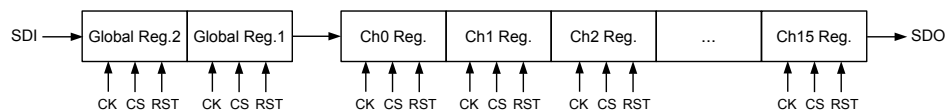

Fig. 5. Serial data map
The ASIC has two 8-bit global shift registers and sixteen channel shift registers (each 8-bits long). The ASIC has four global configuration inputs: Clock (CK), Chip Select (CS), Reset (RST), and Serial Data Input (SDI); and one global configuration output: Serial Data Output (SDO). The serial data map is shown in Fig. 5.
The main global register depicted as Global Reg. 1 in Fig. 5 is as shown in Fig. 10. Apart from that, another 8-bit global configuration register is depicted as Global Reg. 2 in Fig. 5 is used for the DAC control and is explained later in the DAC section.